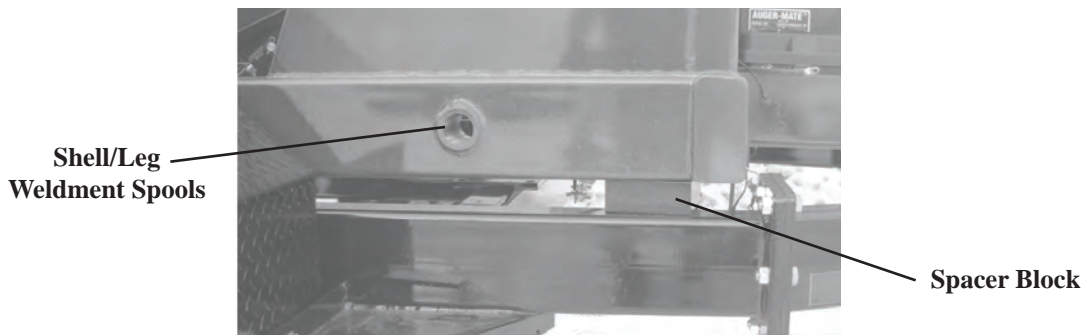

Figure 6.2
3. Insert 4 Spacer Blocks in between the Shell/Leg Weldment and the Chassis Frame. Be sure the 4 Spacer Blocks are identical in width and fit snug between the Shell/Leg Weldment and the Chassis Frame (Figure 6.2).
5. Lift the shell approximately 2-3". This will allow enough clearance to slide the weigh bars into the Shell/Leg Weldment Spools. (Figure 6.2).
10. Remove Spacer Blocks (Figure 6.2)